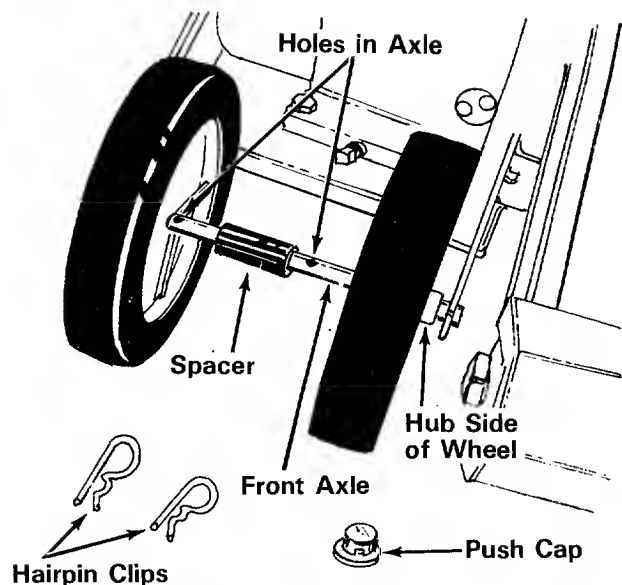
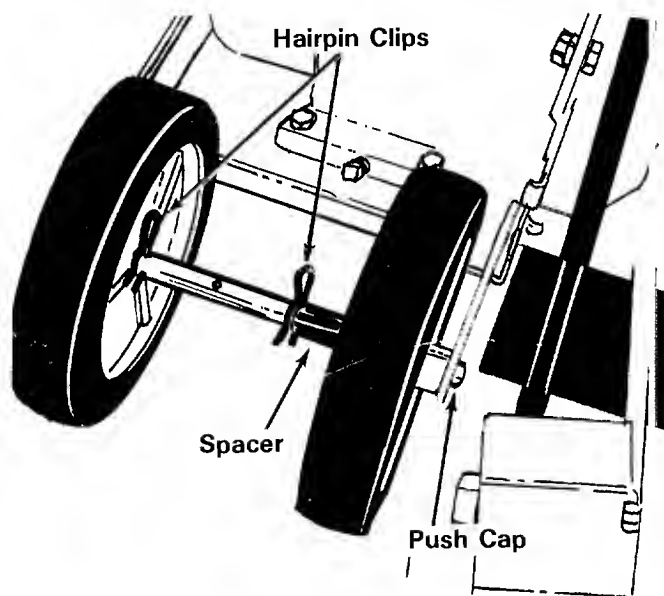

FIGURE 4
FIGURE 5
2. Starting on the right side of the edger, place the axle through the support arm on the frame. Then place axle through one wheel so the hub of the wheel is to the outside of the unit. Next place axle through spacer, the other wheel (hub to the outside of the unit) and through second support arm. See figure 4. Secure with push cap by tapping it on with a hammer. See figure 5. It is necessary to hold a block of wood or a second hammer against the push cap on the other side of the axle.
3. Secure the front wheels and axle in position using two hairpin clips. See figure 5.